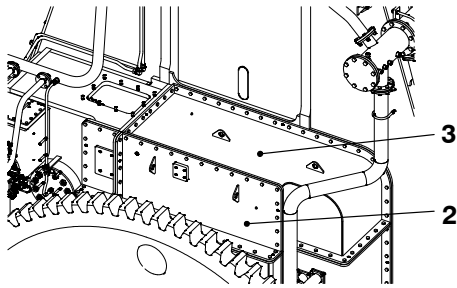

Fig. 9
1) Remove the covers (2 and 3, Fig. 9).